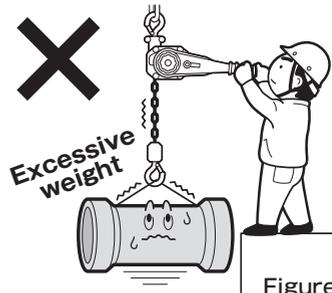

Figure 7
- (1) Never suspend loads exceeding the rated load. (Figure 7)
- (2) Do not use this equipment if it is damaged or emits abnormal noises.
- (3) Never use load chains that are twisted, tangled, cracked, have abnormal meshing, or are elongated or worn beyond specified limits.
- (4) Do not intrude into the area beneath the load or within the moving range of the load. Additionally, do not move the load above anyone.
- (5) Never operate the hoist in such a manner as to let the load drop even a slight distance.
- (6) Never cut, splice, or weld the load chain.
- (7) Do not operate the lever hoist if the load cannot be suspended from the center portion of the hook.
- (8) Do not use this equipment as a sling suspension device. Also, do not use with the load chain wrapped around the load.